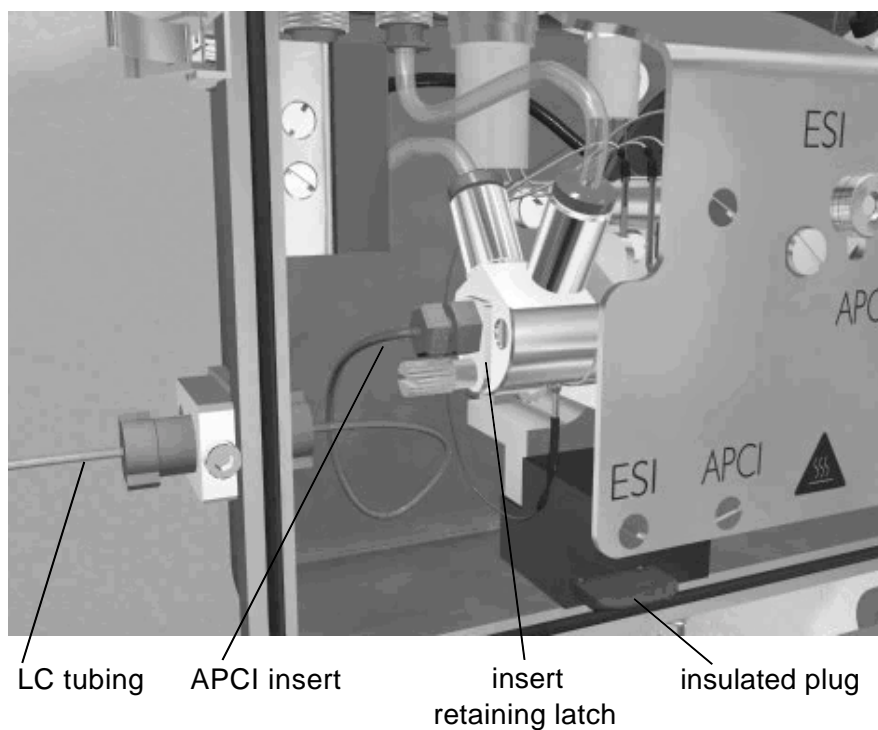

Figure 2-8. Installing the APCI insert and securing with the retaining latch
5. Insert the insulated plug (P/N FM100507) into the APCI position; see Figure 2-8 for identification of the insulated plug.